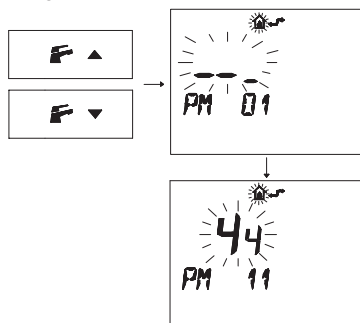

Fig. 8.20
- Press buttons or or or to display the "PM11" program of the pump post-circulation (Fig. 8.20).